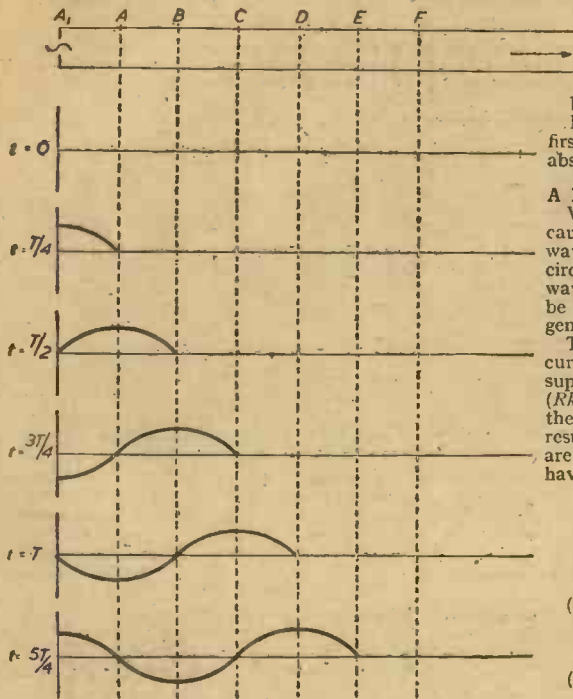

Fig. 6.—Depicting the build up on a line of a simple travelling wave.
Let the generator mentioned before be connected to the line at the instant $t=0$. Then in a quarter of a periodic time (1) The potential at A_1 (Fig. 6) rises to its maximum value, and (2) The condition that previously existed at A_1 has now reached A . Hence the potential distribution along the line will be as that depicted.